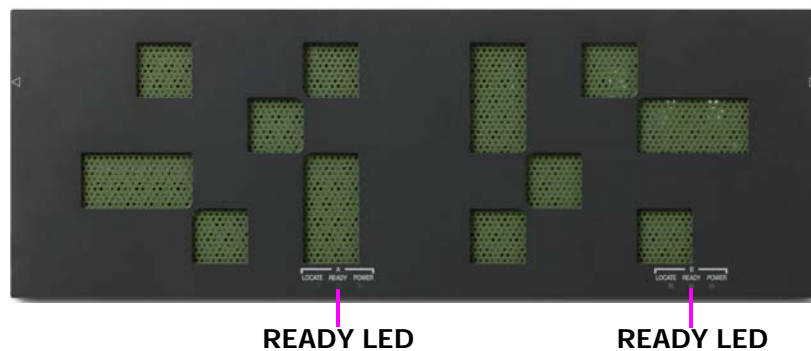

Figure 15-19: READY LED on DBX Drive Box
- Green **READY** LED on the front bezel goes ON (usually five minutes after attaching power cables). See Figure 15-19 on page 15-31.